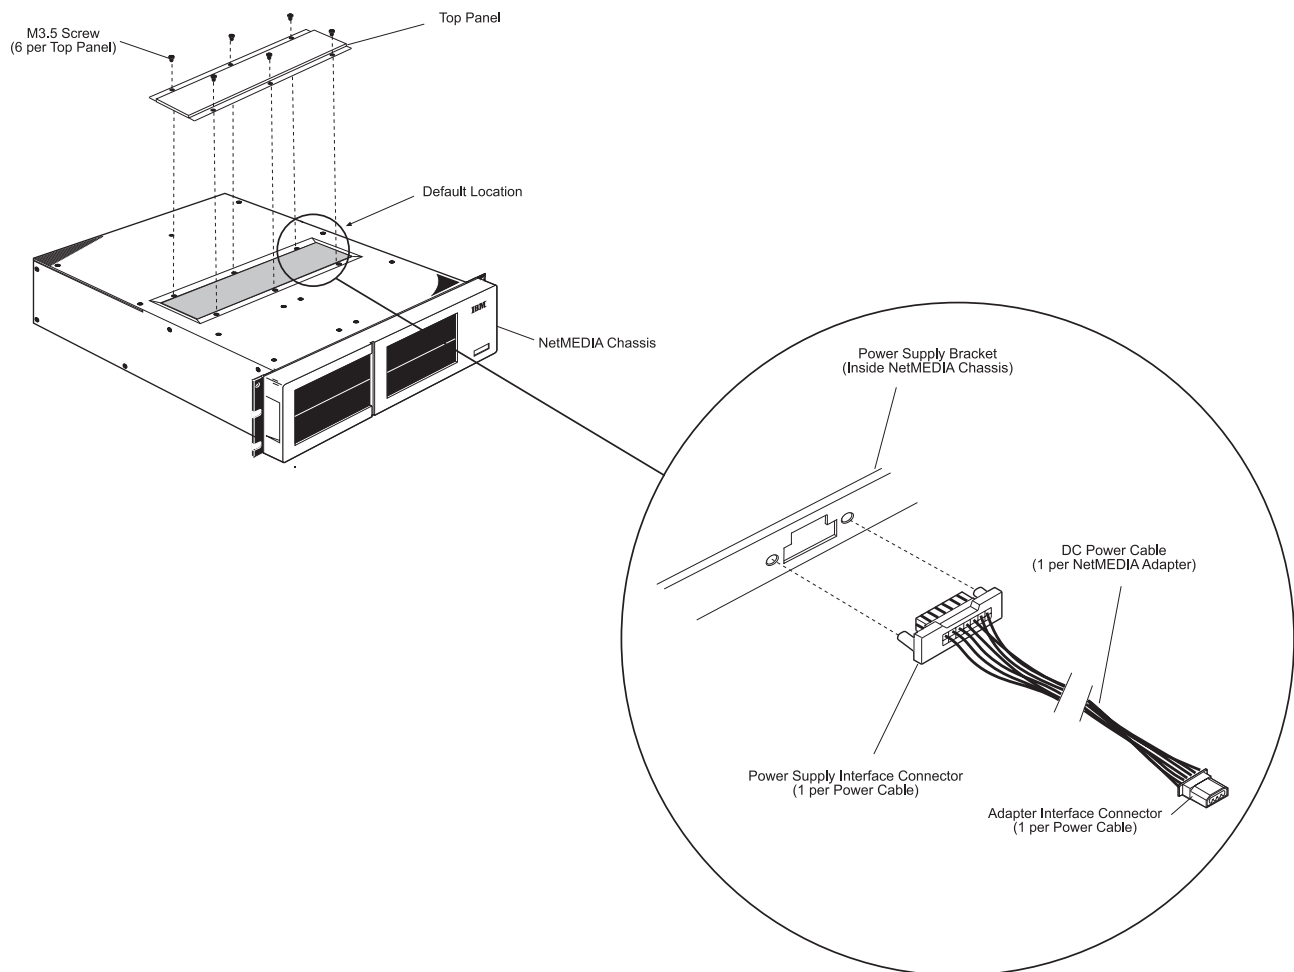

Figure 5: Connecting the DC Power Cable to the Power Supply Bracket
3. With the top panel removed, the power supply bracket can be accessed for installation of the DC power cable. The DC power cable (via the power supply interface connector) connects to the power supply bracket within the NetMEDIA chassis as shown below in Figure 5.
4. Connect the DC power cable to the default location on the power supply bracket as shown below in Figure 5. Do not reinstall top panel at this point.